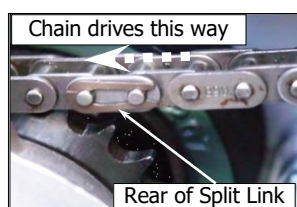

Figure 6.3.3d
- Ensure that the joining link is re-fitted to the chain with the open end of link facing the opposite way to direction of drive. Refer figure 6.3.3d.